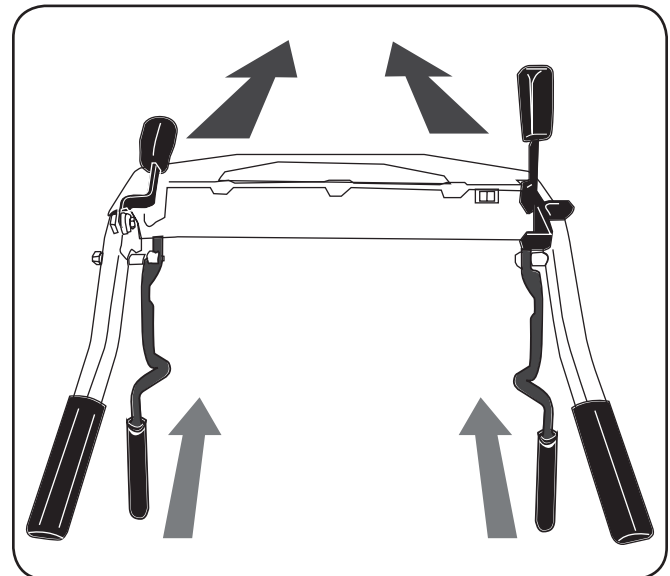

Figure 5-2
- a. Pull the clutch control bail up with the neutral handle in the free wheel position, the reverse handle disengaged and hold it against the handlebars. See Figure 5-2. To stop the forward motion of the tines, release the bail.